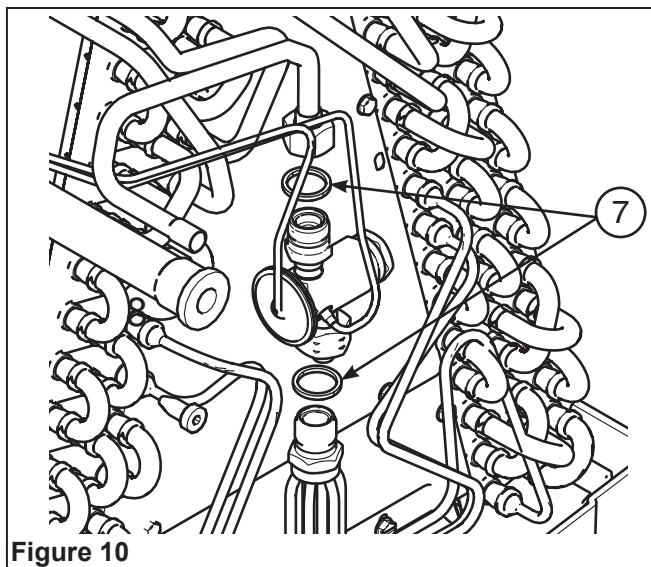

Figure 10
7. To install the TXV, install one new Teflon washer over the distributor fitting and the other new Teflon washer over the liquid line fitting (Figure 10). Hand-tighten the adapters to make sure proper mating of threads. Tighten until bodies "bottom" or a definite resistance is felt. Using a back-up wrench, tighten an additional 1/4 turn.